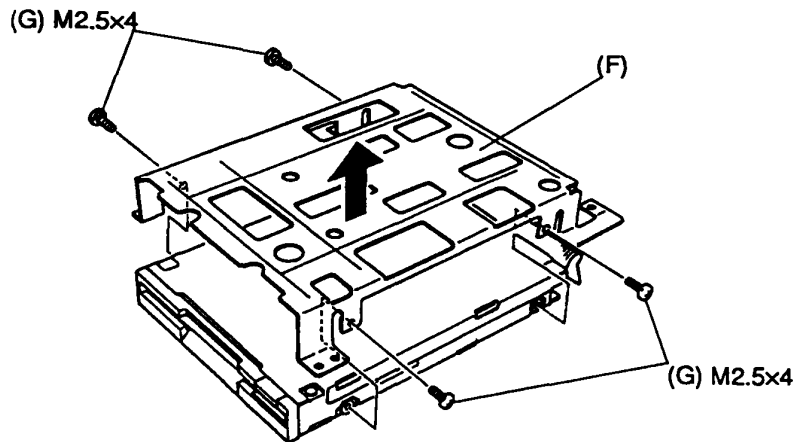

Figure 4-22 Removing the floppy disk drive bracket
7. To remove the FDD bracket (F) from the FDD, remove the four (M2.5x4 brass) screws (G) securing the FDD to the bracket (Figure 4-22).
1. To install the FDD bracket, align the FDD bracket with the four holes on the sides of the FDD (Figure 4-22).